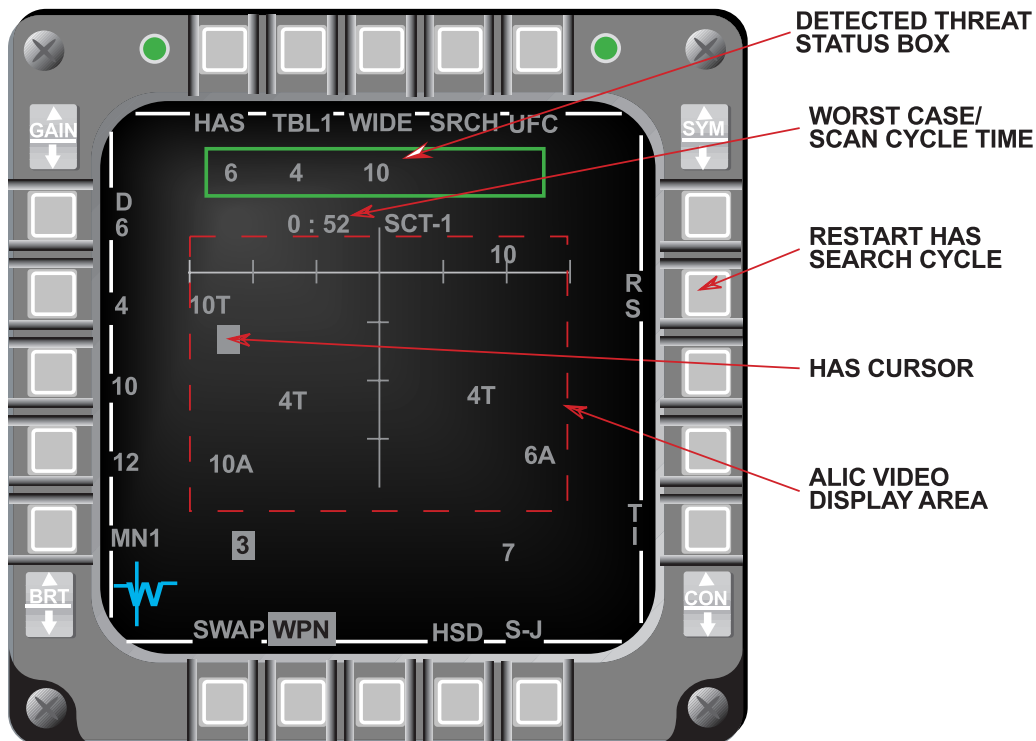

Figure 4-18 ALIC Video Display Before Hand-Off
The HARM provides seekerhead video to locate threats in the HARM HAS mode. The HAS WPN page (Figure 4-18) is the same as the POS WPN page except for the following controls and display information:
- 2) FOV Selection (OSB #3): The POS mode (OSB #3) is replaced in the HAS mode by the HARM FOV rotary. The selections are center (CTR), left (LT), right (RT), and wide (WIDE). The FOV initializes to wide at power up. The pinky switch also rotaries the FOV.
- 3) Search Select (SRCH) (OSB #4): Displays the Search Select page. Threats types can be deselected to reduce search scan time. The worst case cycle time for the selected (highlighted) threats is displayed as shown in Figure 4-18. Scan cycle time can also be reduced by reducing the HARM FOV.
- 4) Restart (RS) (OSB #7): Restarts the scan cycle and blanks all previously displayed threats on the Search Select page.
ALIC provided video of detected threats is displayed in the center of the HAS WPN page. The ALIC provides two video displays: 1) used for searching, and 2) used after hand-off. The initial video display before hand-off is shown in figure 4-18 above. Two threats can be displayed for each threat table entry, for a total of ten threats. If two threats are not detected for each threat table entry, more than two threats may be shown for the other table entries. The detected threats are displayed on the relative azimuth and elevation from the nose of the missile. When detected, the threats are displayed with an identification letter representing the radar type. If multiple radar types are detected for the same threat type at the same location, the identification letter is not displayed with the threat type number. Only the highest priority threat is displayed when multiple threat types are detected at the same location. Detected threats are stationary with respect to the ground as the aircraft rolls and pitches. Threats are displayed on the bottom line of the video when they go below the seekerhead FOV.